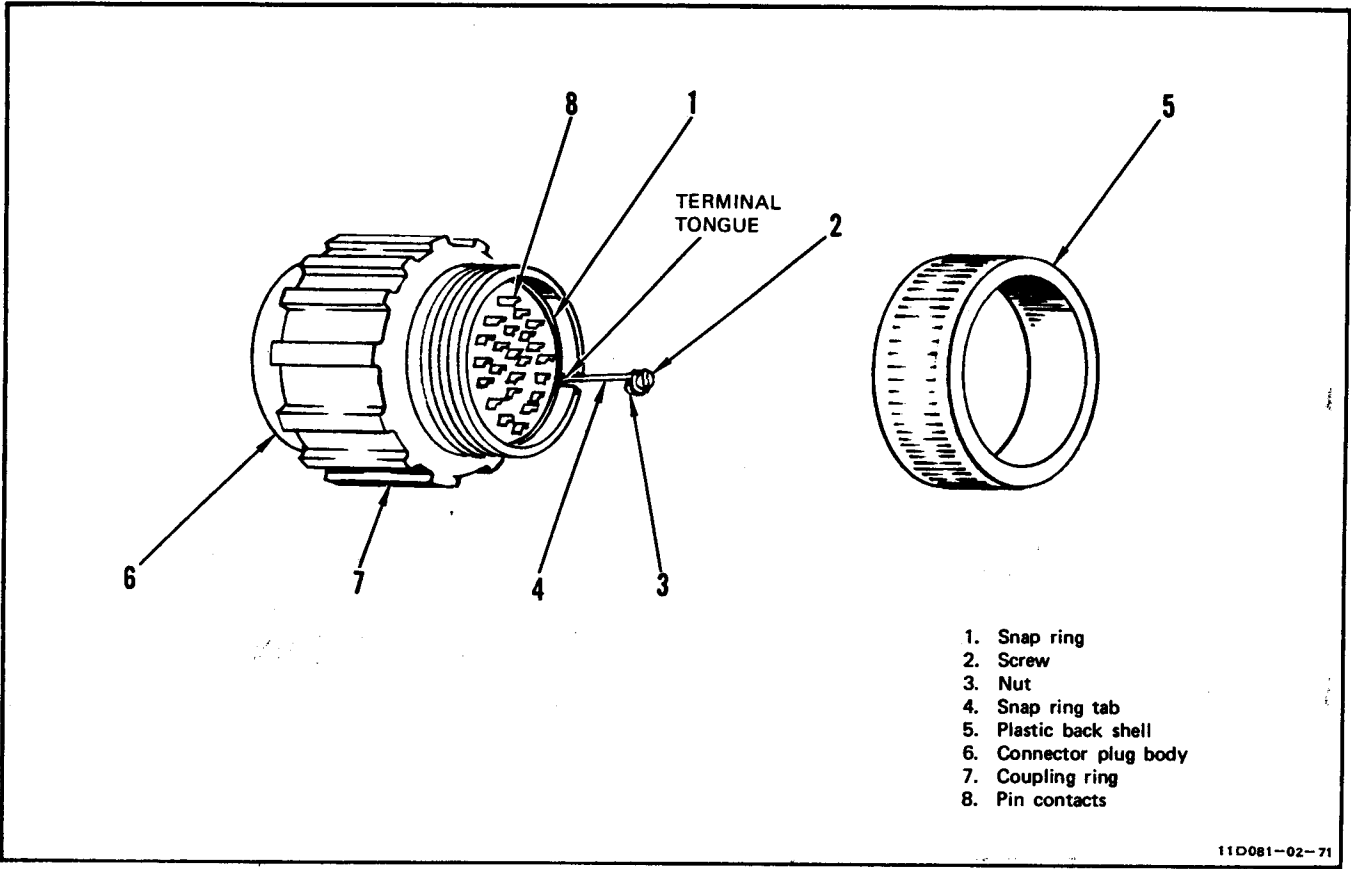

Figure 11-24. MS25183 Connectors
**11-68. Disassembly. (See figure 11-24.)****NOTE**
- e. Solder wire conductor (7) to pin contact (8).
**11-70. Assembly.** (See figure 11-24.)
- a. Assemble plastic back shell (5) to connector plug body (6) so snapping tab (4) extends up through clearance notch in plastic back shell.
- e. Place screw (2) and nut (3) in snapping tab with head toward wire and tighten nut.